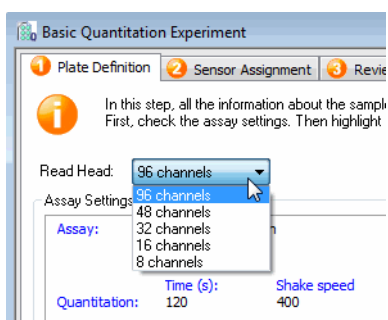

Figure 7-2: Selecting Read Head Channels
- Click on the drop-down list for Read Head to select 96, 48, 32, 16 or 8 channels (Figure 7-2) as the new Read Head setting. An individual assay is defined as a series of steps or dips starting with pick up of the biosensors, followed by the assay steps, and ending with ejection of biosensors back into the biosensor tray or disposal chute. A Quantitation method file may contain multiple assays.